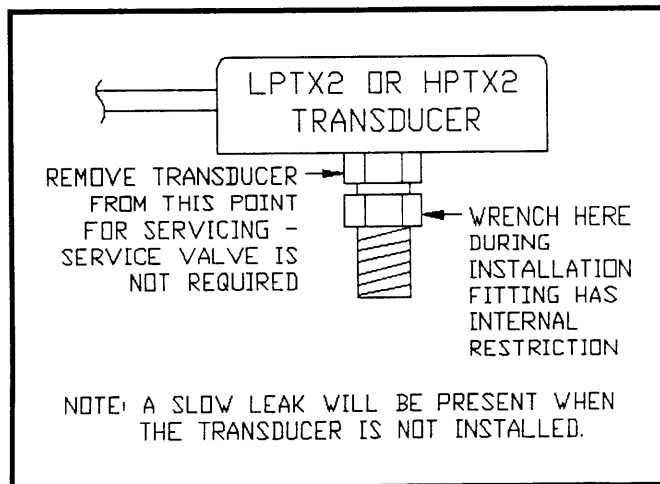

Figure C-2: Pressure Transducer
- Wrench only on the bottom part of transducer fittings! (See **Figure C-2**).